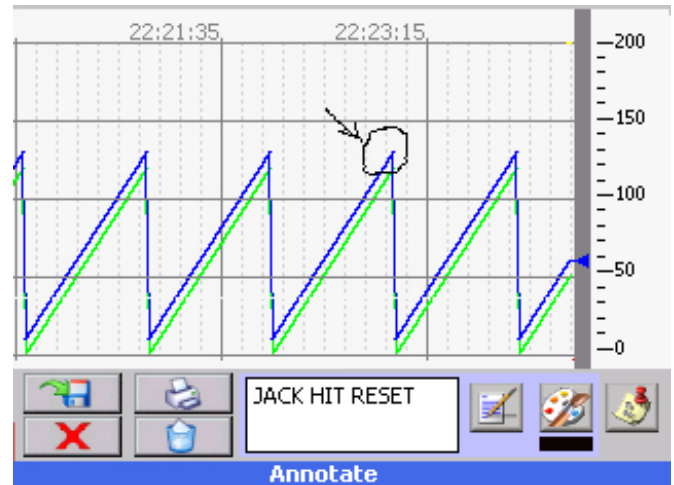
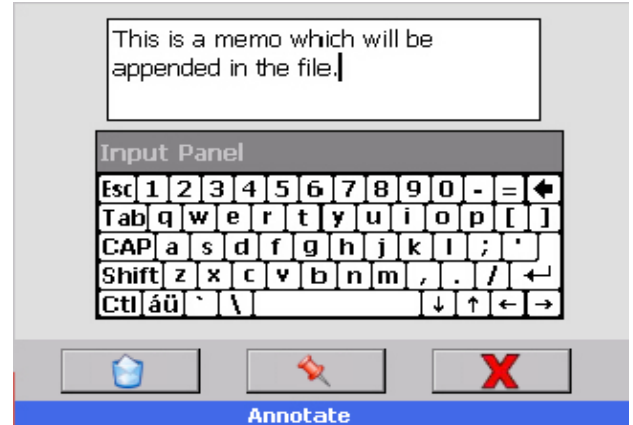

Figure 4-12.2 Annotation Screen
Figure 4-12.4 Text Message Editor
-  Tap this Place Text icon to place the text in the text dialog box. It is necessary to *first enter text* in the box (which contains the words “JACK HIT RESET” in Figure 4-12.2.) After tapping the icon, tap the position on the screen where you want the text to be place. The text is placed to the right of your tap position.
Enter the Text Message Editor by tapping the icon shown on the Annotate Screen - Figure 4-12.2. The Text Message Editor is shown in Figure 4-12.4. Any message can be entered in the text box as shown.